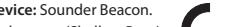

Fig. 2c
Schalten 7 Blitzrate: 0.5Hz =Aus/1Hz =Auf (Siehe Abb. 2c).
c. Met dipschakelaar 7 Flitsselheid: 0.5Hz =UIT/1Hz =OP (zie afb. 2c).